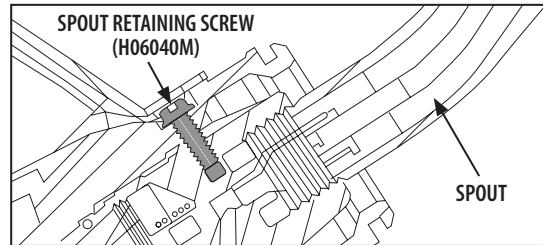

FIGURE 9
- 8) Install the new retaining screw into the spout. To prevent stripping, DO NOT over-tighten the screw. (*Figure 9*)